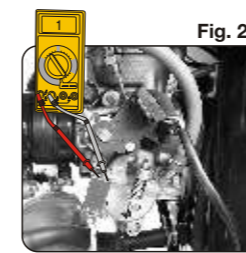

Fig. 2
- When throttle is open and Reed Switch magnet crosses to straight edge of fix bracket of Reed Switch (Fig. 2) multi meter should show discontinuity.